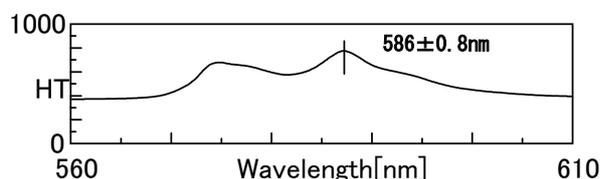

Fig. 4.9 HT data of neodymium glass
- (3) Mount neodymium glass in the sample chamber.
- (4) Select the [Start] command from the [Measurement] menu in order to perform measurement.
- (5) Using the spectrum analysis program, verify that the peak wavelength of Channel 2 (Fig. 4.9) of the measurement data is 586 ± 0.8 nm. If the peak wavelength does not fall within this range, adjust the instrument according to the following procedure.